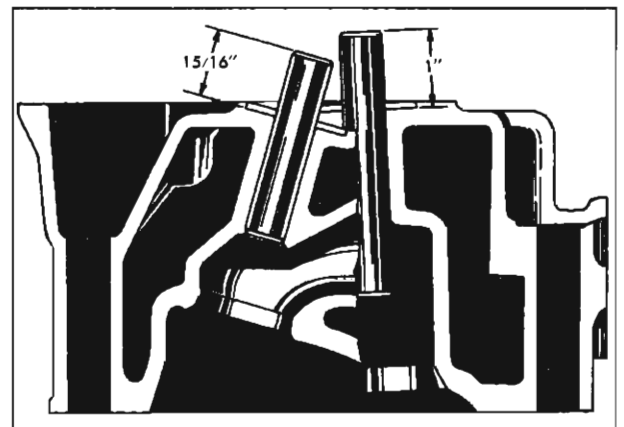

Fig. 11—Valve Guides
**NOTE:** The guides should be pressed into the cylinder head until the tops of the exhaust guides extend  $15/16$ " above the head and the intake guides extend 1" above the head (fig. 11). Service tool J-5599 may be used on intake guides by placing a  $1/16$ " shim under tool. Service tool J-5734 may be used on exhaust guides also using a  $1/16$ " shim under tool.